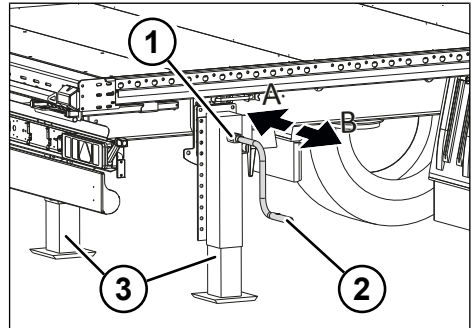

Fig. 5-6: Load speed and high speed of the rear brace
- ▶ Switch on high speed by pulling out the hand crank (see "Fig. 5-6: Load speed and high speed of the rear brace", pg. 29).
- ▶ Switch on load speed by pushing in the hand crank (see "Fig. 5-6: Load speed and high speed of the rear brace", pg. 29).
- ▶ Set to load speed by pushing in the hand crank (see "Fig. 5-6: Load speed and high speed of the rear brace", pg. 29).
- ▶ Set to high speed by pulling out the hand crank (see "Fig. 5-6: Load speed and high speed of the rear brace", pg. 29).